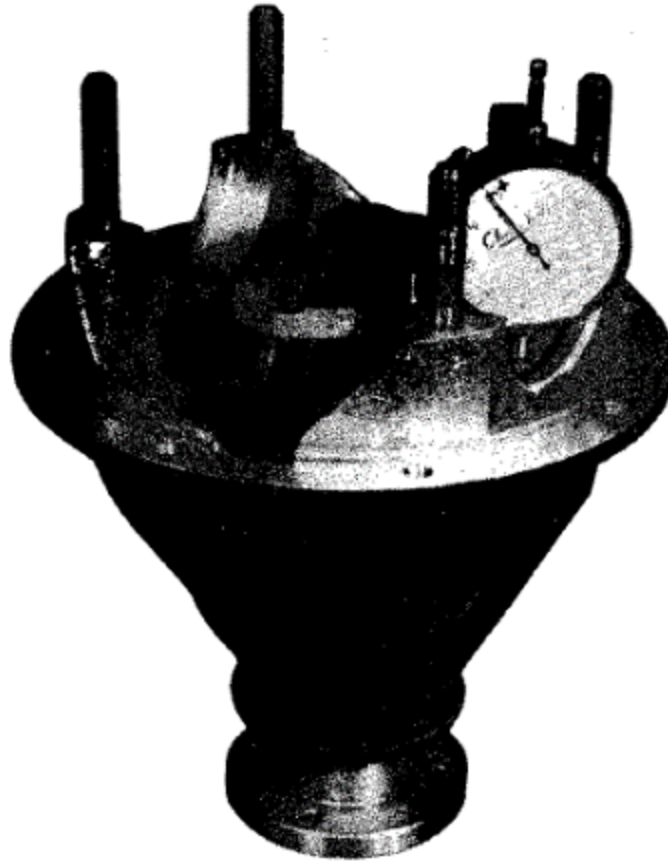

Fig. H.4 The gauge in position on the pinion with the dial indicating a variation from the standard setting
7. Clean the pinion head and place the magnet and dial indicator in position (Fig. H.4). Move the indicator arm until the foot of the gauge rests on the centre of the differential bearing bore at one side and tighten the knurled locking screw. Obtain the maximum depth reading and note any variation from the zero setting. Repeat the check in the opposite bearing bore. Add the two variations together and divide by two to obtain a mean reading.